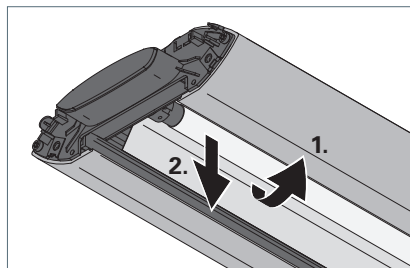

Fig. 19: Replacing the lamp.
- ▶ Rotate the lamp by 90° and take out the lamp toward the bottom, see Fig. 19.